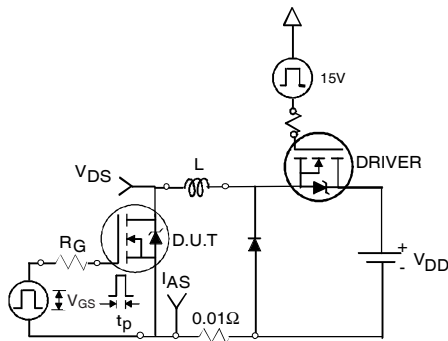

Fig 12a. Unclamped Inductive Test Circuit
- ③ Pulse width $\leq 1.0ms$; duty cycle $\leq 2\%$.
- ④ $C_{oss\ eff.}$ is a fixed capacitance that gives the same charging time as C_{oss} while V_{DS} is rising from 0 to 80% V_{DSS} .
- ⑤ Limited by T_{Jmax} , see Fig.12a, 12b, 15, 16 for typical repetitive avalanche performance.
- ⑥ This value determined from sample failure population. 100% tested to this value in production.
- ⑦ This is applied to D²Pak, when mounted on 1" square PCB (FR-4 or G-10 Material). For recommended footprint and soldering techniques refer to application note #AN-994.
- ⑧ R_θ is measured at T_J of approximately 90°C .
- ⑨ Solder mounted on IMS substrate.
3. Equation below based on circuit and waveforms shown in Figures 12a, 12b.